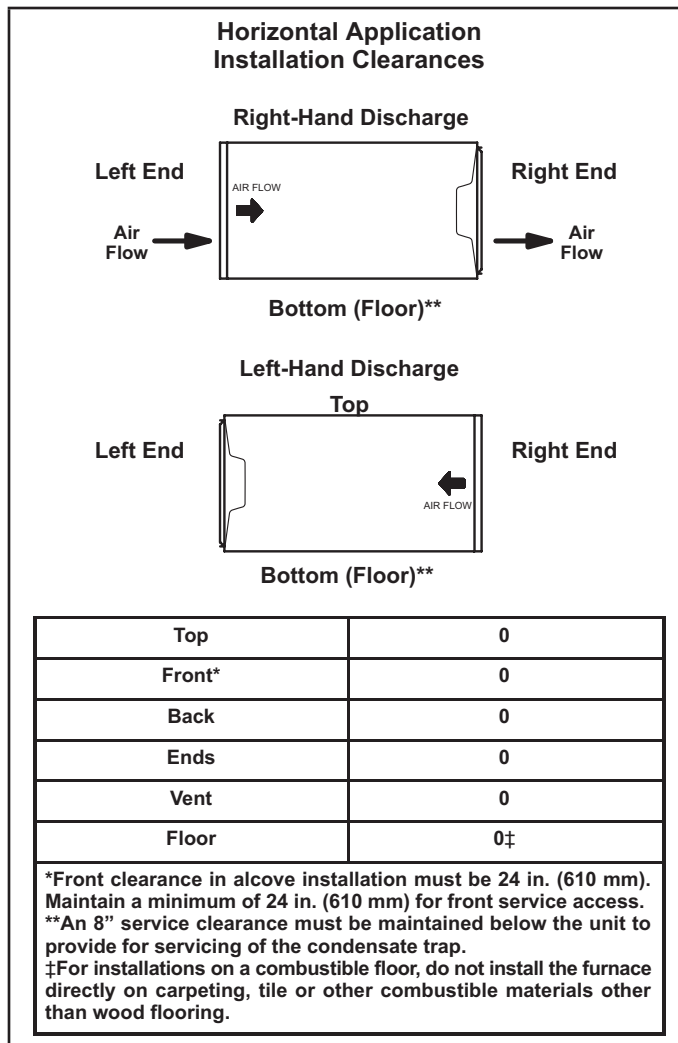

FIGURE 17
The EL297UHE furnace can be installed in horizontal applications with either right- or left-hand air discharge. Refer to "FIGURE 17" for clearances in horizontal applications.
- 1 - Select location for unit keeping in mind service and other necessary clearances. See "FIGURE 17".